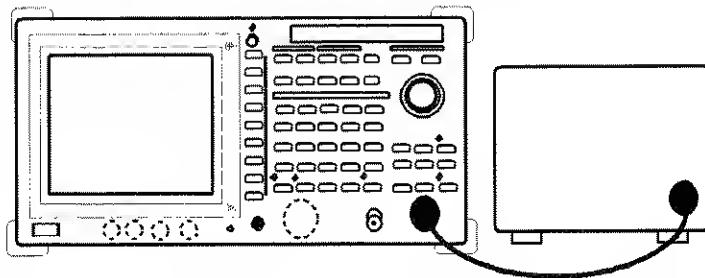

Figure 2-68 Setup to Measure Pulse Signals with Different Frequencies Using 2 Screens
1. Connect the unit under test as shown in Figure 2-68.